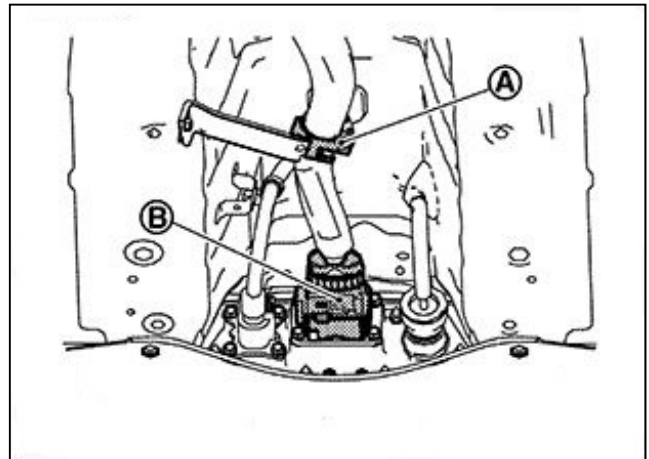

Figure 3
- a. Remove the harness clamp (A) (see Figure 3).